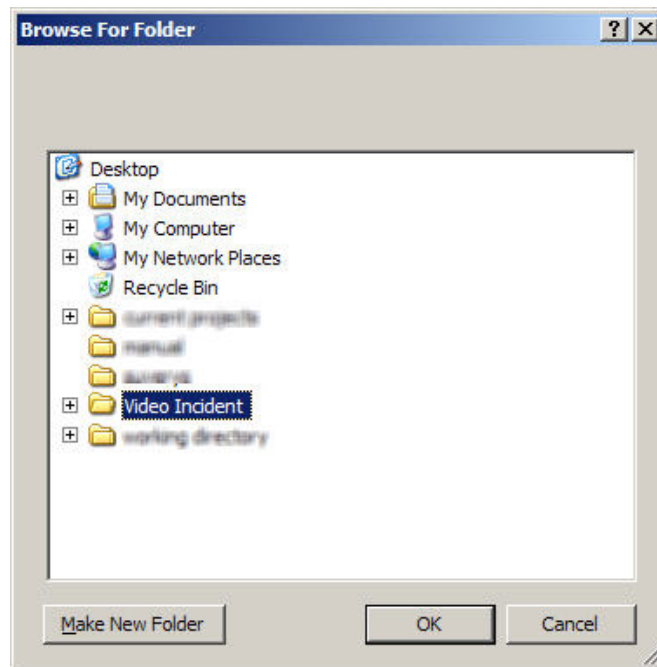

Figure 23
18. You will be prompted for a location to save the selected incidents. Select a location and click **OK** (Figure 23).